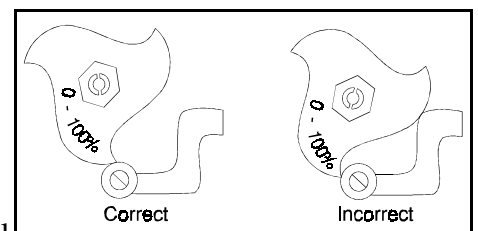

FIGURE 5 (MSSM0102BE)
1. Check that the lower arm ball bearing rests on the highest part of the cam curve (FIGURE 5). If the ball bearing is not at the tip, turn the range adjustment (FIGURE 3).